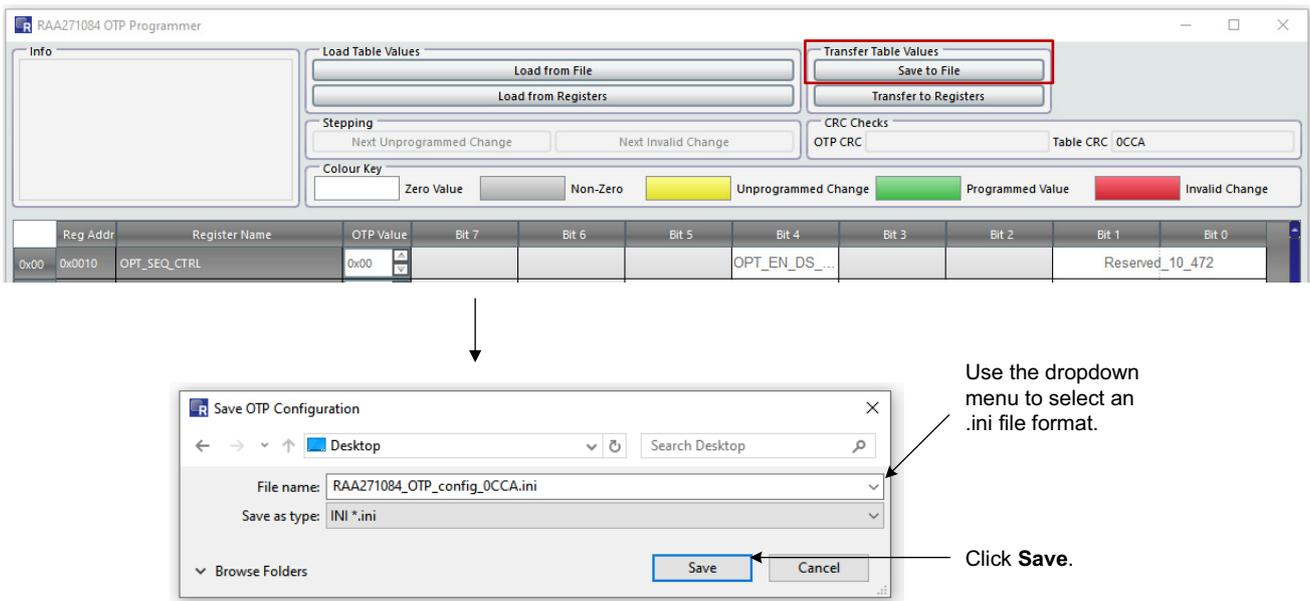

Figure 7. Save the OTP Configuration as .ini File
5. Save the configuration using the .ini format (Figure 7).